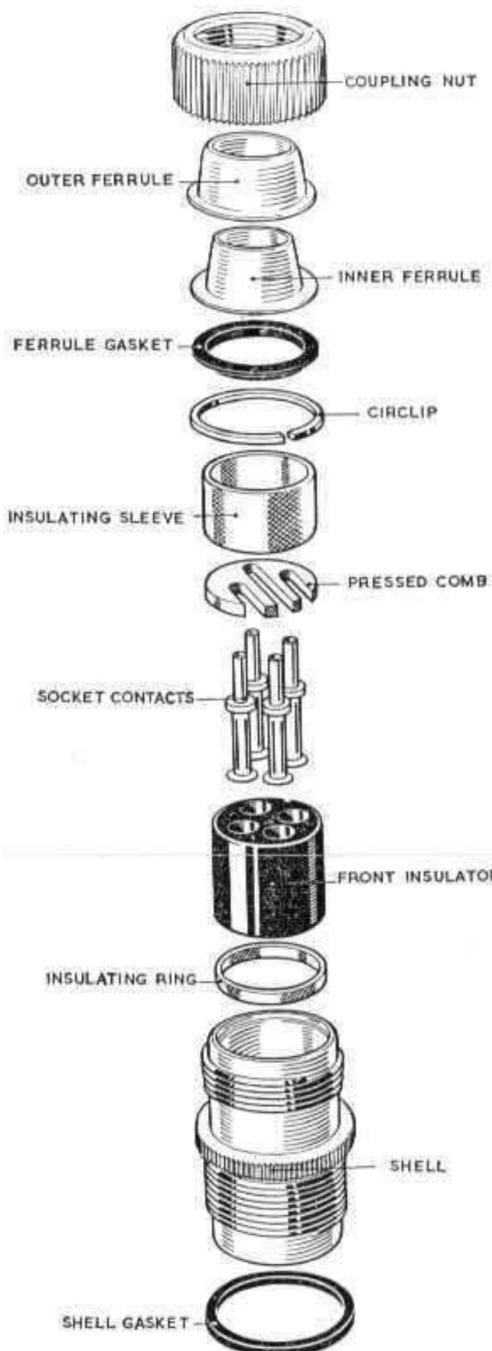

Fig. 7. Free unit (exploded) with coupling nut and inner and outer ferrules, vibration proof
16. Units at stage 4 (fig. 7 and 8) introduced vibration-proof socket contacts (suitable for soldering or crimping without the use of thimbles). A pressed comb replaces the comb insulator used at stage 3, making the unit suitable for use with arrangements which include 37A and 64A contacts. Wire locking holes are drilled in the coupling nut as an added precaution against vibration.
#### *Inner and outer ferrules (Table 31 and fig. 7)*